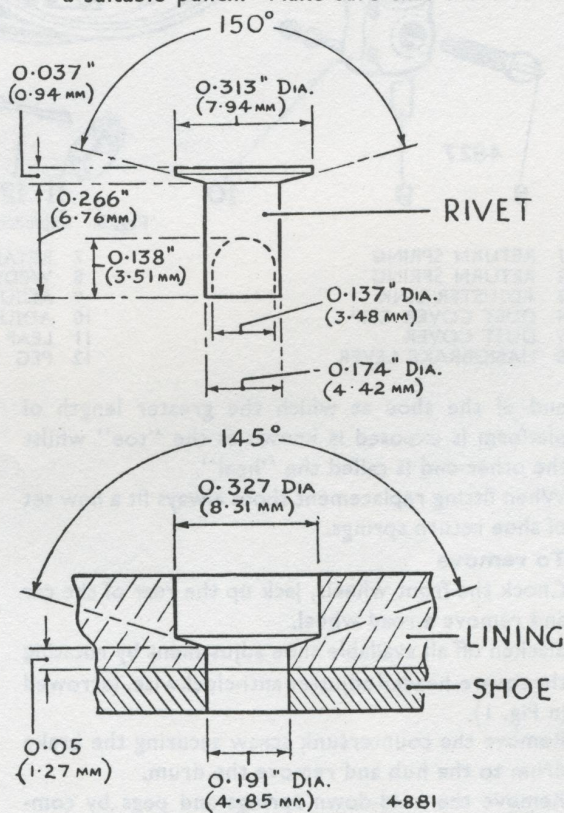
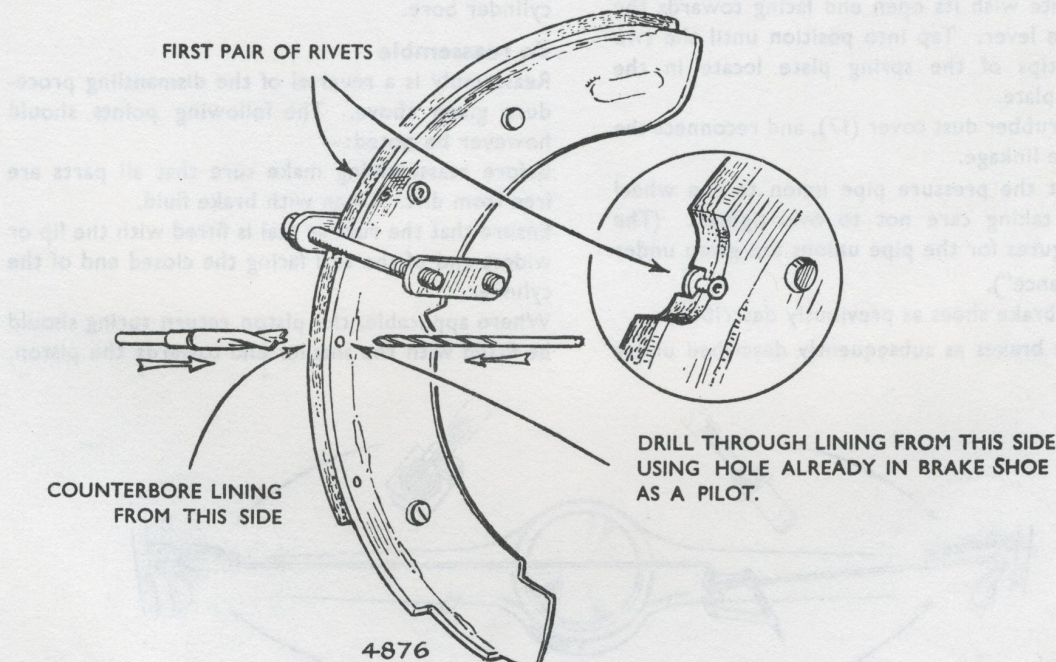

Fig. 6. Rivet details
Fig. 7. Method of drilling "off the roll" linings when these have to be used
7. Mount a rivet dolly in the vice. Fit the rivets in pairs starting at the centre pair and working outwards towards the ends. Each shoe will require ten copper or brass rivets of the dimensions shown in Fig. 6. When riveting, hold the head firmly against the anvil and secure using a suitable punch. Make sure that there is no
The linings should be bored to the dimensions shown in Fig. 6 to receive the rivets. The holes should be positioned to line up with those already in the brake shoes. This may easily be done by clamping the linings to the brake shoes and using the shoes as templates. (See Fig. 7).